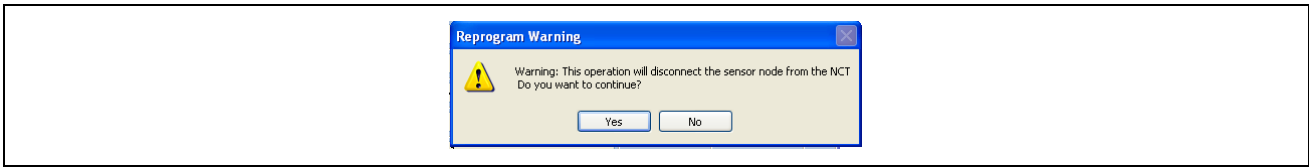

Figure 4 Reprogram Warning Dialog
- 6 In the Tools menu, select the "Update Sensor Node Operating System..." menu item. When the Reprogram Warning seen in Figure 4 appears, select 'Yes' to continue or 'No' to quit.